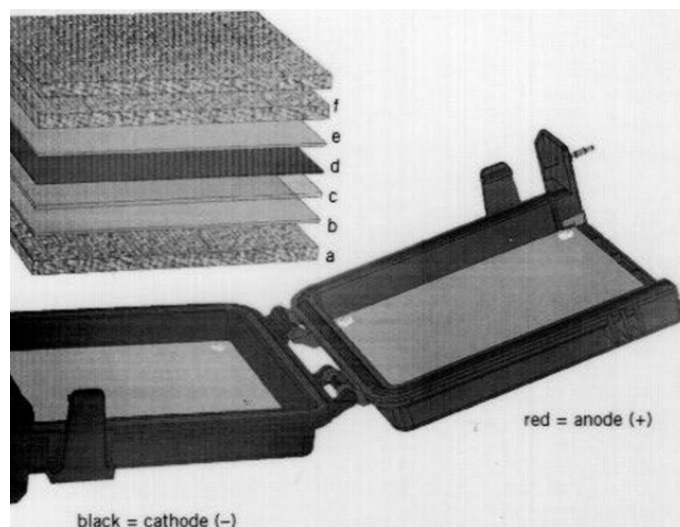

Figure 1. **Assembling a transfer stack** (*this is an original figure taken from the Technical Guide available at [www. hoeferinc.com](http://www.hoeferinc.com)*)
- a. The stack is assembled on the black cathode side (see Figure 1):